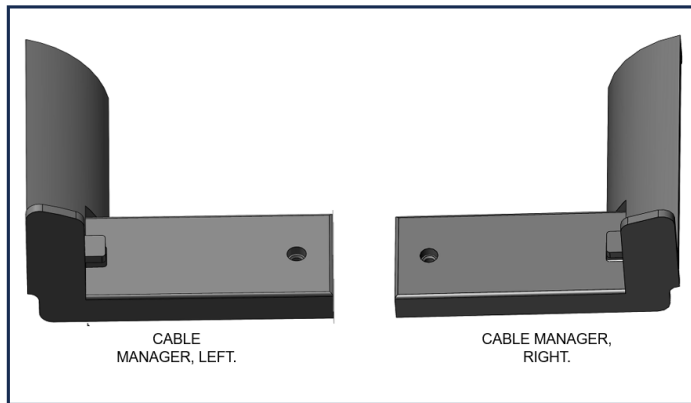

Figure 8
6.4) To install the cable managers (item 10, 11), orient the curved sides to face each other. Place the short tab up and facing towards you as depicted in figure 8. Item 11 is the right-side cable manager. Item 10 is the left side cable manager. To attach them to the tray, place the long tab under the tray and align the holes to the threaded feature. Use the #6-32 screws provided (1) each, to fasten each cable manager. Do not overtighten.